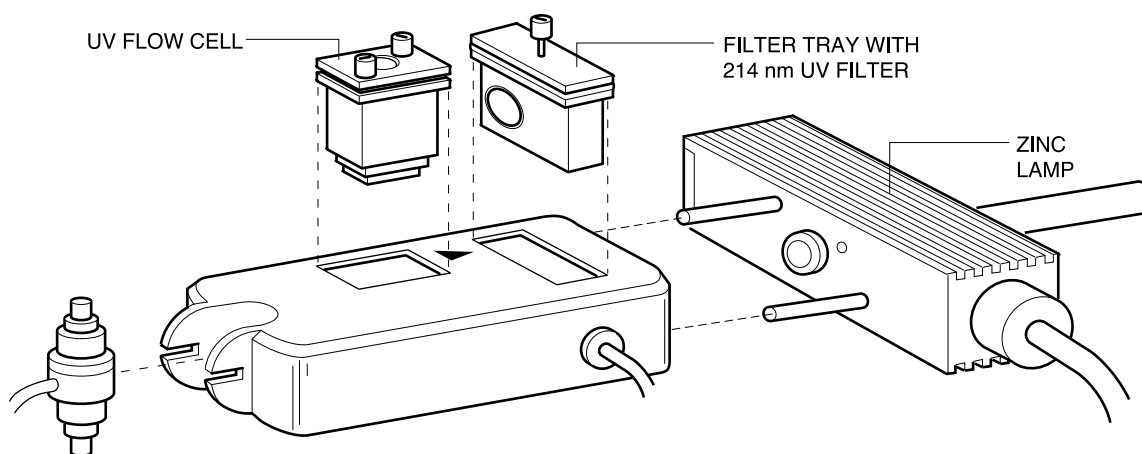

Figure 2-7. UV Detector, with Zinc Lamp, 214 nm Filter, and Conductivity Flow Cell
- **Zinc Lamp and 214 nm Filter.** The zinc lamp and 214 nm filter are optional. The zinc lamp attaches directly to the optics module in place of the mercury lamp. (Refer to Figure 2-7)
- Flow cell with Inlet/Outlet ports: To connect the tubing, use 1/4-28 flat bottom fittings. The flow cell allows flow in either direction. The flow cell can be plumbed immediately after the UV flow cell or at any other point in the flowpath. It is designed to fit into a receptacle on the UV detector (see Figure 2-7). The volume in the cell is a nominal 6 μ l.